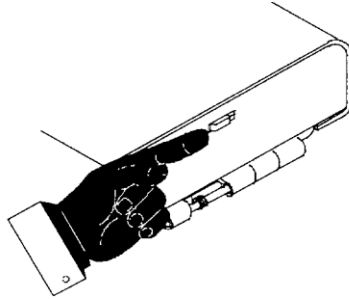

Figure 4.1
- 4.1 Check to see that the Model 2380 power switch is in the “O”(off) position. Open the battery compartment door on the power source case by sliding the latch to the right. See Figure 4.1.